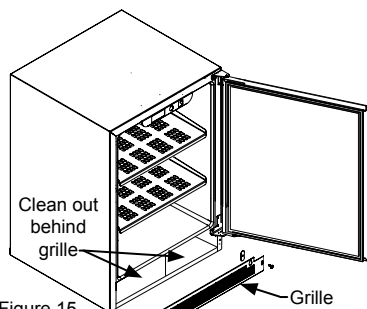

Figure 15
8. Remove the front toe-grille, (see Figure 15), and use a brush and vacuum to clean dirt and debris from beneath the unit.
9. Thoroughly clean the toe-grille and re-install on the unit. (See Figure 15).